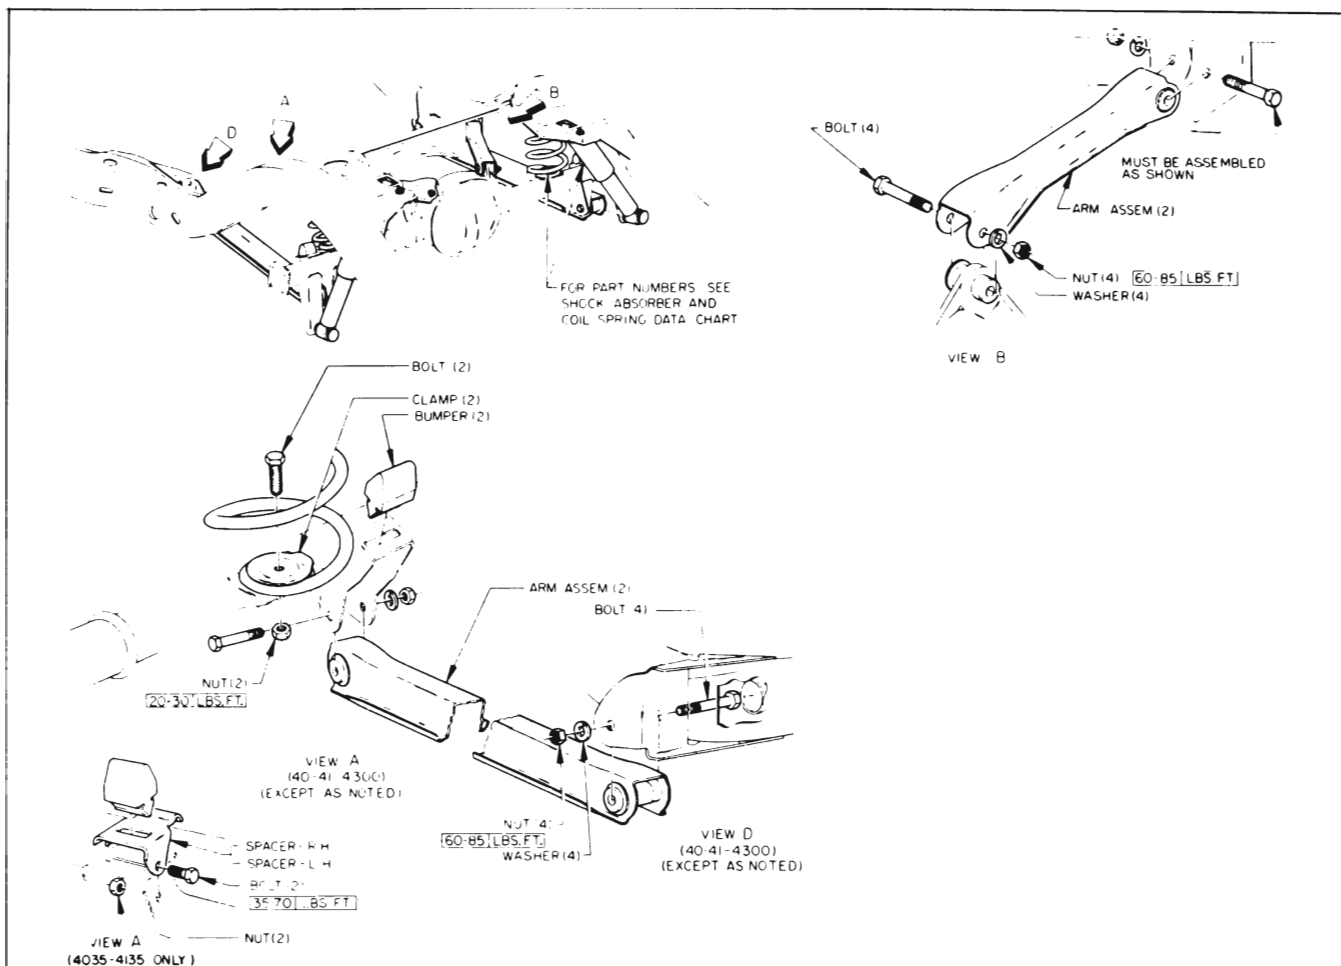

Figure 7-27—Rear Suspension Details
tach as shown in Figure 7-27. Torque the rear nut and bolt to 25 ft. lbs. and the front nut and bolt to 72 ft. lbs.
2. Disconnect control arm at carrier housing by removing a nut, cam, and cam bolt assembly. See Figure 7-27.
1. Attach arm at the frame with nut, lock washer, and bolt. Torque to 60-85 ft. lbs. See Figure 7-27.
2. Disconnect shock at upper end. Disconnect shock at lower end and remove shock. See Figure 7-27.
2. Provide slack in parking brake cable to allow rear axle to be lowered without damaging cable. Disconnect shock absorber at lower end on same side that spring is being removed. See Figure 7-27.